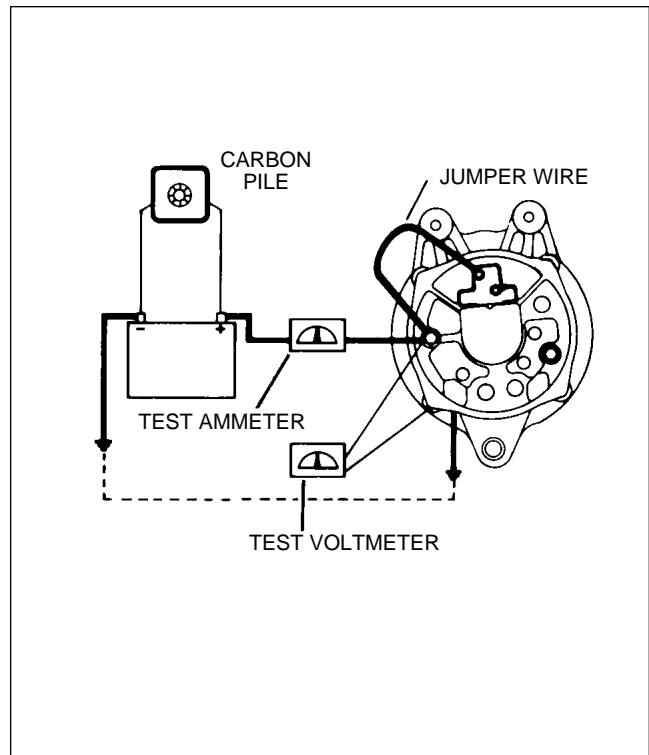

Figure 11-13. Testing Alternator
- Wiring connections for bench testing the alternator are shown in Figure 11-13. Refer to the Service Paragraph 11-14 and Table XI-II for output test figures. Adjust the carbon pile if necessary, to obtain the specified voltage.
Refer to Figure 11-13 for test circuit used. Specifications for Prestolite and Electrosystems alternators installed on the PA-28-151 or Warrior, PA-28-161, Warrior II (14 Vdc), and the PA-28-161, Warrior III (28 Vdc) series airplanes are as follows: